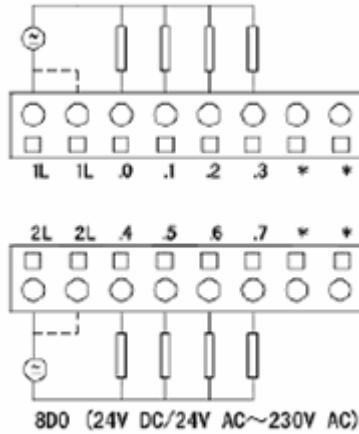

Figure 3-1-9 LM3222 Terminal Definition & Wiring
- 1L and 2L of DO channel in Figure 3-1-9 are load drive supply terminals of two groups output, it can be either DC or AC supply.
- 1L and 1L, 2L and 2L are connected inside circuit board (shown by broken line in Figure 3-1-9).